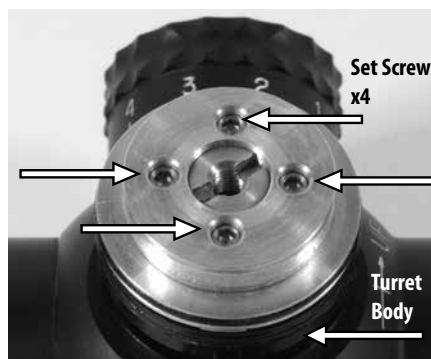

Figure 2
- D. Loosen each of the four Allen head screws on the ZeroStop™ clutch assembly 1½ to 2 turns counter clockwise. **DO NOT** remove the screws from the clutch assembly. See Figure 2.